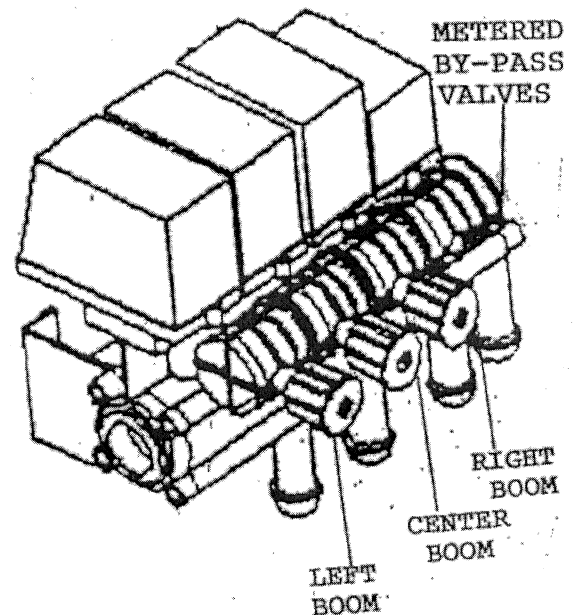

Figure 1
4. Close all three (3) **Metered Bypass Valves** (red knobs), by turning knobs in a clockwise direction as far as they will go (Figure 1).
5. Open all three (3) sections of the boom from the **Control Panel**. Set desired operating pressure using electric **Control Switch** on the **Control Panel**. To set the **Metered Bypass Valve**, close one (1) boom section at a time. Then open the **Metered Bypass Valve** for that boom section until the desired operating pressure is achieved.